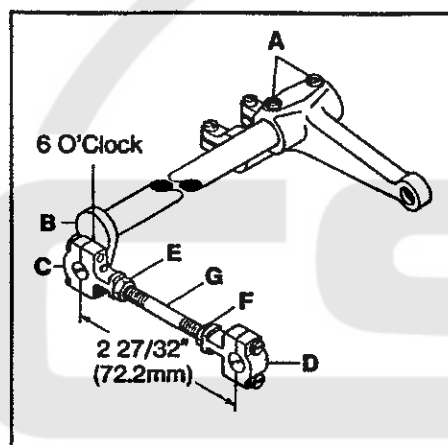

FIG. 27
Subtract dimension "A" from dimension "B" and divide by two. Add this number to dimension "A" to obtain "C". Set a caliper to the "C" dimension and turn the handwheel in operating direction until the height of the needle bar is at the "C" dimension. At this time the knife drive lever should be in the 6 o'clock position. If adjustment is necessary, loosen screws (A, Fig. 27) in the needle lever and reposition knife drive lever (B) to the 6 o'clock position. Tighten screws (A). The dimension between the centerline of right and left knife drive connection ball joints (C and D) must be  $2 \frac{27}{32}$ " (72.2mm). Loosen left hand thread nut (E), right hand